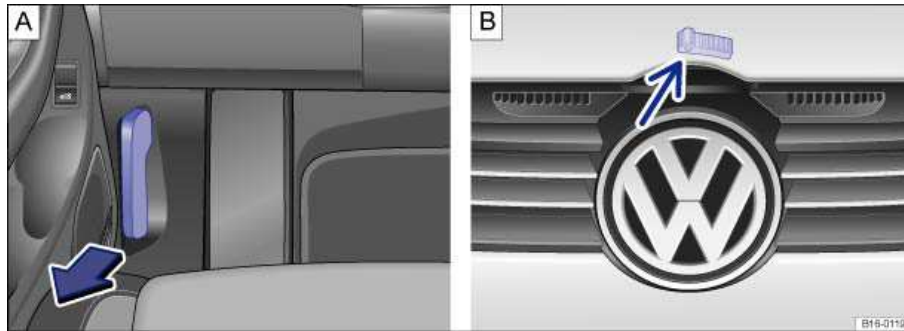

Fig. 141 A: In the footwell on the driver side: Inside engine hood release lever. B: Above the radiator grille: Outside engine hood release.
- Open the driver door and pull the inside hood release lever in the direction of the arrow ⇒ fig. 141